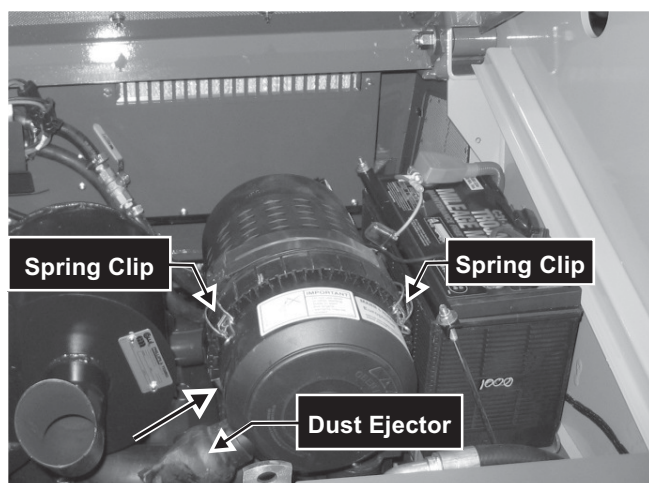

Fig. 10-12 Pull cover off the air cleaner assembly.
2. Release three spring clips securing cover and remove cover. Clean out dirt build up in cover assembly. **Fig. 10-12**
5. Check condition of dust ejector. **Fig. 10-12**